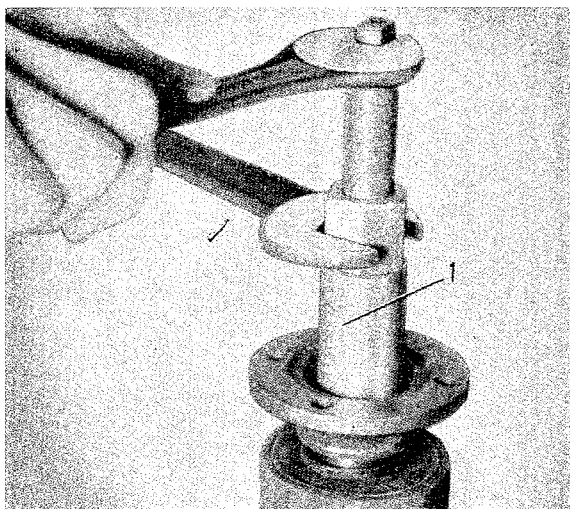

Fig. 4-139. Installation of flange
4. Press on the flange with the help of press tool 1845, see Fig. 4-139. Fit the washer and nut. Tighten the nut to a torque of 240–300 Nm (24–30 kpm=180–220 lbft).